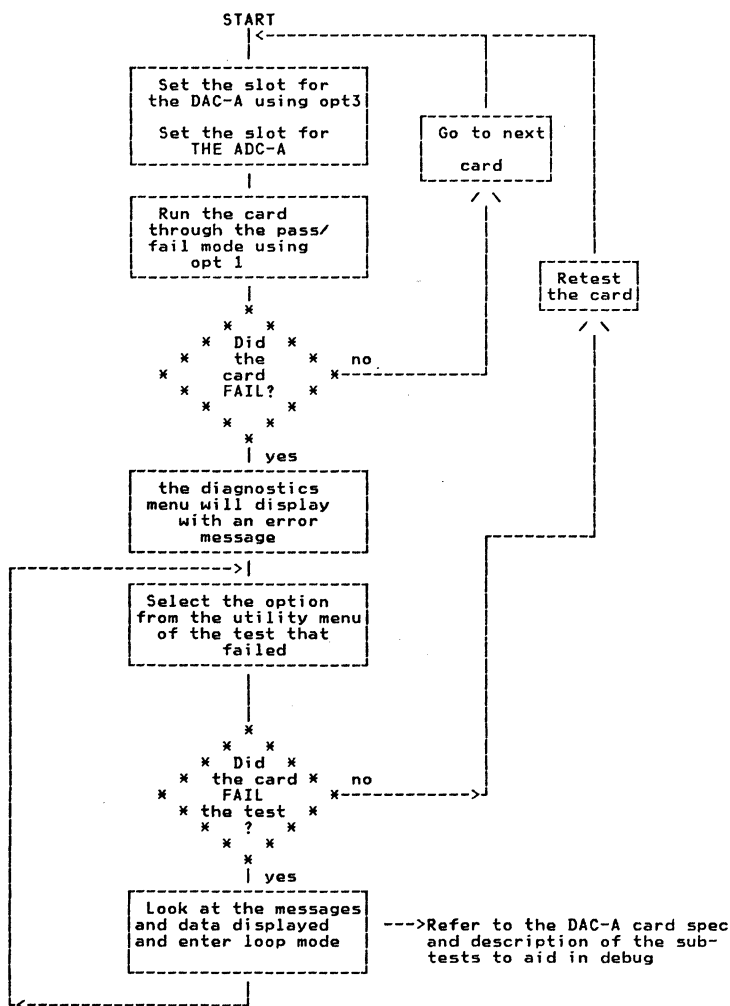

Figure 18. DAC-A Test Procedure
- Follow the flowchart in Figure 18 on page 33.